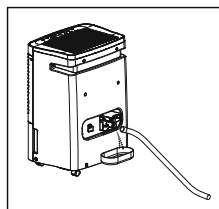

fig. 6
- f. When you want to remove the garden hose, prepare a drip tray (not supplied) to collect the water from the nozzle.(fig.6)